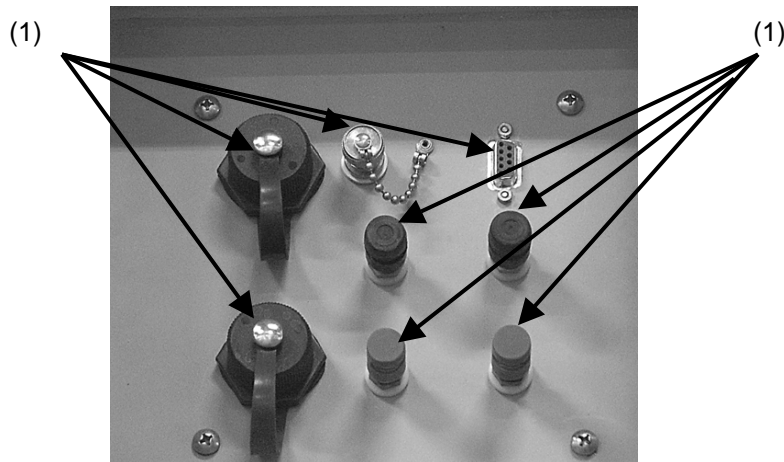

Figure 4-36. Communication panel.
2. Loosen hardware holding eight connectors (1) (Fig.4-36).